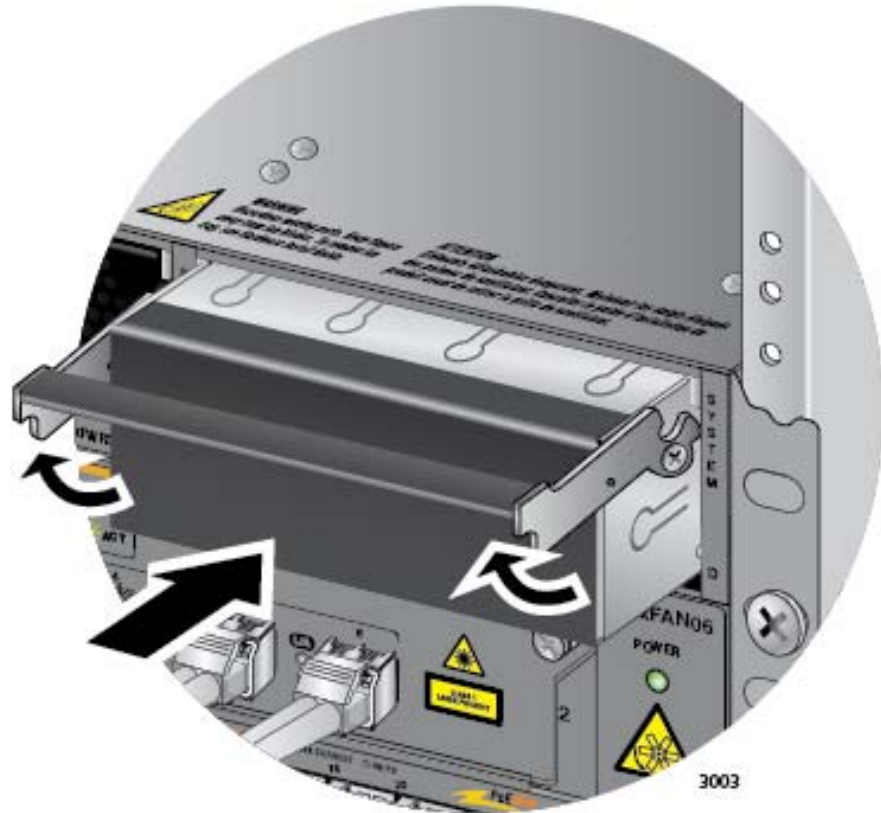

Figure 158. Installing a Blank Power Supply Slot Cover
5. Place the locking handle on the slot cover in the up position and slide the cover into the empty power supply slot. Refer to Figure 158 on page 256.